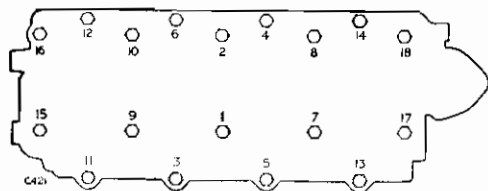

Fig. A-426—Order of tightening cylinder head bolts
5. Tighten down the cylinder head bolts in the order indicated by Fig. A-426. The $\frac{1}{2}$ in. U.N.F. bolts, including those that also secure the rocker brackets, must be pulled down to 80 lb/ft (11 mkg) whilst the $\frac{5}{16}$ in. U.N.F. bolts securing the rocker brackets only are pulled down to 12 lb/ft (1,7 mkg).